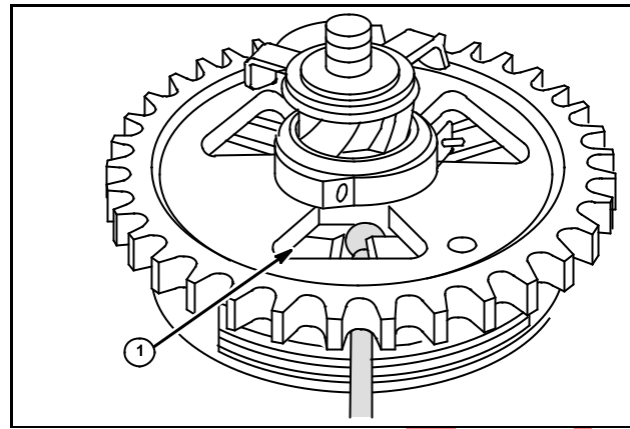

Fig. 33
18. Insert unknotted end on rope thru rope pocket (1) and pull rope thru until knot is seated in rope pocket, Fig. 33.